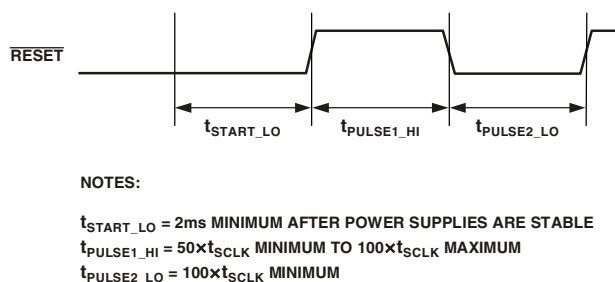

Figure 4. Power-up Reset Waveform
- Power-up reset—After power-up of the system, and strap options are stable, the  $\overline{\text{RESET}}$  pin must be asserted (low) for a minimum of 2 ms followed by a deasserted (high) pulse of a minimum of 50 SCLK cycles and asserted (low) for a minimum of 100 SCLK cycles.  $\overline{\text{TRST}}$  must also be asserted (low) during power-up to ensure proper operation of the device. See Figure 4.